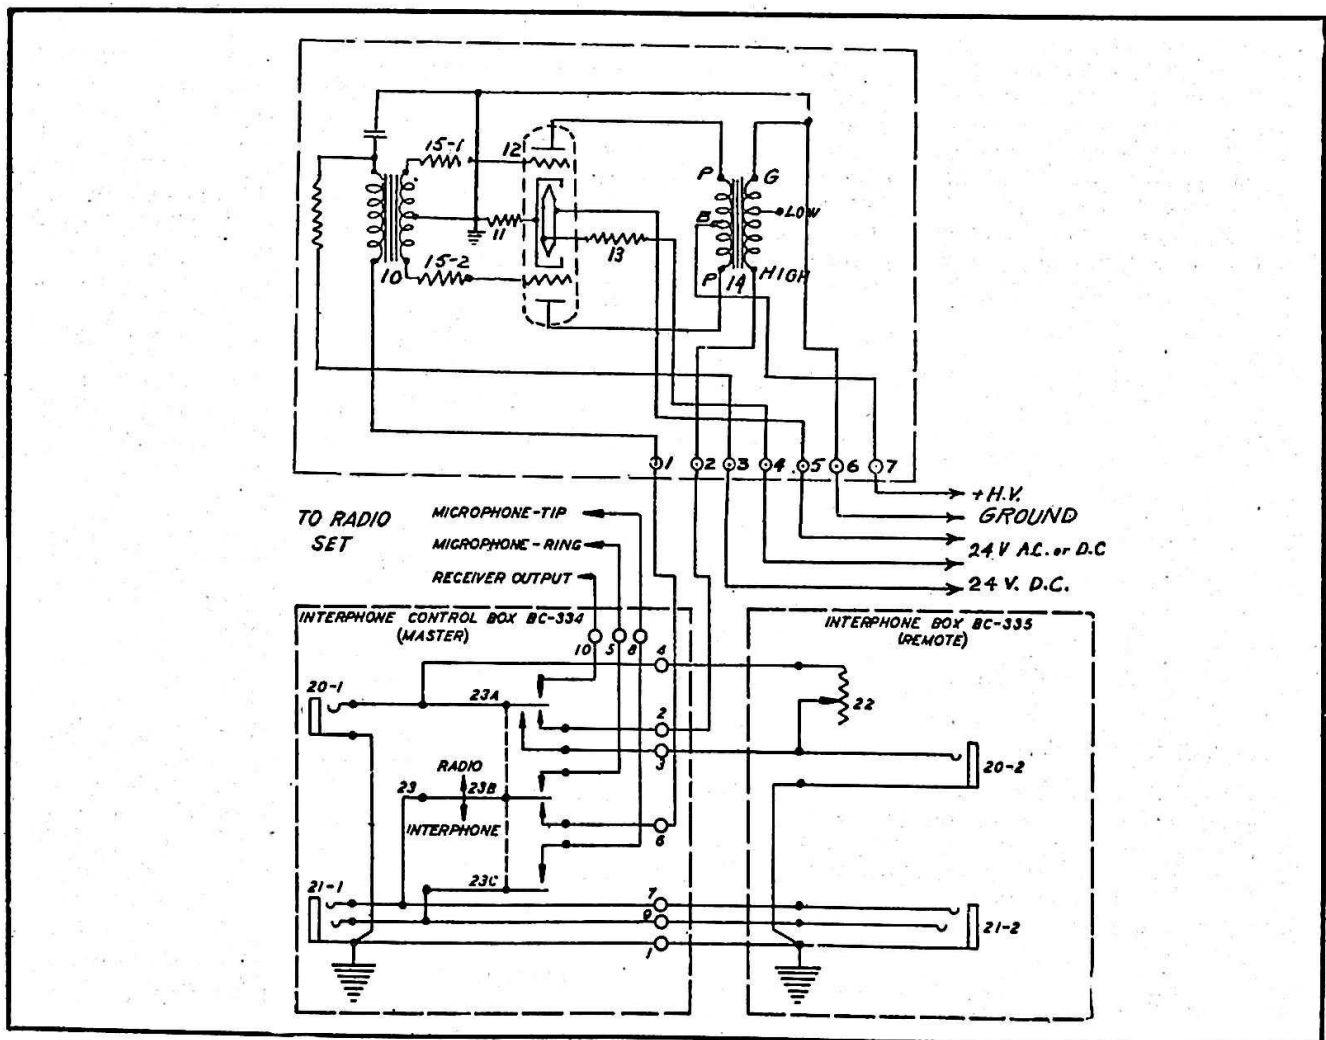

Figure 1-9. Interphone Equipment RC-34—Typical Installation, Schematic Diagram
(1) Place the selector switch on Interphone Control Box BC-334 in the "INTERPHONE" position. This connects both microphones and both headsets to the interphone amplifier (See fig. 1-9.)
(2) Close either microphone switch and speak into the associated microphone. An accurate reproduction of the speaker's voice will be heard in each headset.
(3) The volume control on Interphone Box BC-335 is not effective on the interphone circuit.
(1) Place the selector switch on Interphone Control Box BC-334 in the "RADIO" position. This connects both microphones and both headsets to the radio set. (See Fig. 1-9.) The output of the radio receiver will be heard in each headset.
(2) Since a volume control is not provided on Interphone Control Box BC-334, the pilot controls the output level in both headsets by means of the radio receiver volume control. It is possible to reduce the output level at the remote position by means of the control on Interphone Box BC-335.
(3) Close either microphone switch and speak into the associated microphone. The transmitter will be modulated and the voice output of the sidetone circuit will be heard in the headset, provided that the "VOICE-CW-TONE" switch on the transmitter control box is in the "VOICE" position.